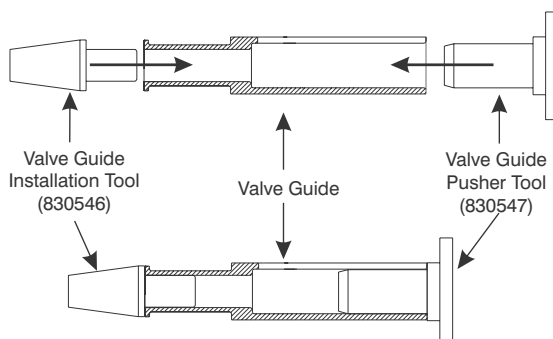

Figure 9-14. Valve Guide and Installation Tools
1. Before installing the Valve Guide (14), lubricate:
- the I.D. of the Shock Absorber (15).
2. Insert the small end of the Installation Tool 830546 into the small end of the Valve Guide, as shown in Figure 9-14.
3. Insert Pusher Tool 830547 into the large end of the Valve Guide, as shown in Figure 9-14.